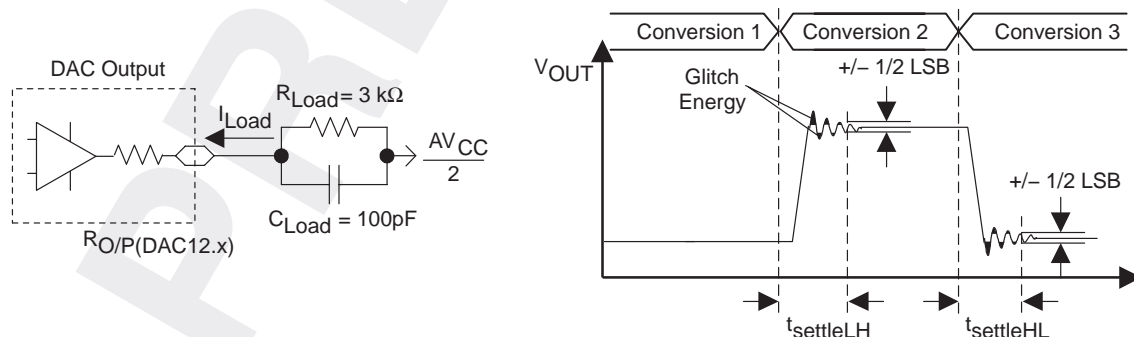
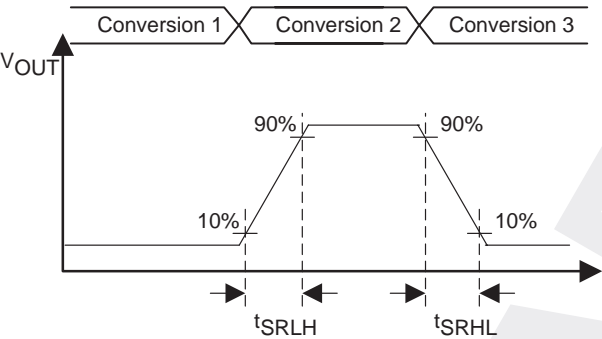

Figure 30. Settling Time and Glitch Energy Testing
Figure 31. Slew Rate Testing
12-bit DAC, dynamic specifications; V_{ref} = V_{CC}, DAC12IR = 1 (see Figure 30 and Figure 31)
- NOTES: 1. R_{Load} and C_{Load} connected to AV_{SS} (not AV_{CC}/2) in Figure 30.